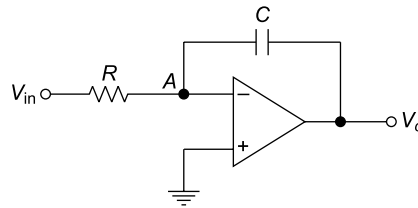

Fig. 5.38 Circuit of Ex. 5.18
5.18 In an integrator circuit as shown in Fig. 5.38, the value of RC is 1 second. Find out the output voltage at $t = 1$ second, $t = 2$ seconds and $t = 3$ seconds when input voltage is 2 V.